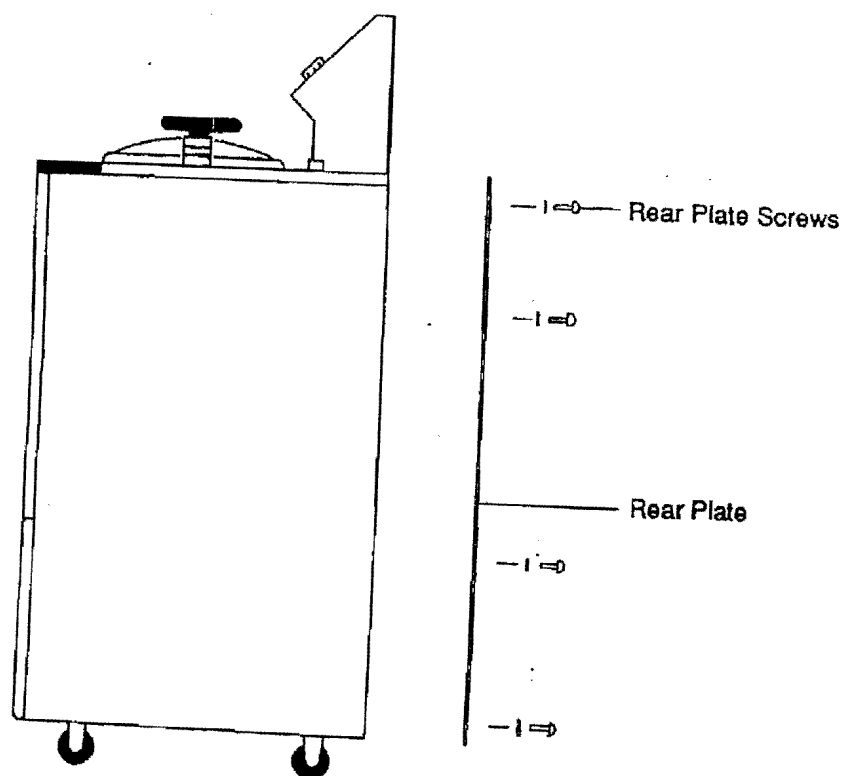

FIGURE 3-5
1. Remove the rear plate screw. (see Figure 3-5)